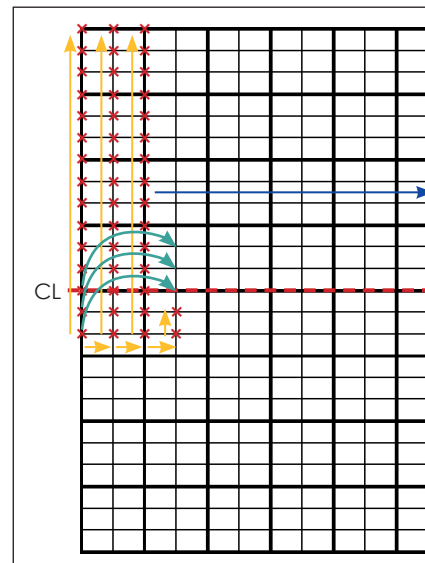

Figure 45: Use Jigs for XY Axis Seam Adjustment
- Install jigs in the first column from the starting point upward to the top of the display. Refer to **Figure 45**.
- Install a second column of jigs from the starting point upward to the top of the display. Refer to **Figure 45**.
- Install a third column of jigs from the starting point upward to the top of the display. Refer to **Figure 45**.
- Install two jigs in the fourth column of the display at the starting point. Refer to **Figure 45**.
- Move the jigs from the first column to the fourth column, working from the starting point upward to the top of the display. Refer to **Figure 45**.
- Use **Steps 4-8** to continue across the display. Refer to **Figure 45**.